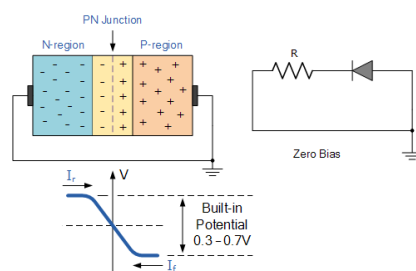

Fig 9: Zero Bias
**Zero Bias:** When no external voltage potential is applied to the PN junction diode called Zero Biased Junction Diode. However if the diodes terminals are shorted together, a few holes (majority carriers) in the P-type material with enough energy to overcome the potential barrier will move across the junction against this barrier potential. This is known as the "Forward Current" and is referenced as  $I_F$ . Likewise, holes generated in the N-type material (minority carriers) and move across the junction in the opposite direction. This is known as the "Reverse Current" and is referenced as  $I_R$ . This transfer of electrons and holes back and forth across the PN junction is known as diffusion, as shown Fig 9.